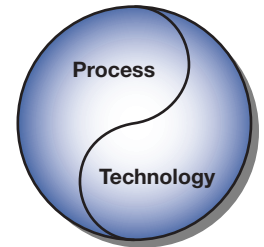

Figure 3.9 Mastering both the technology and the process ought to be every project participant's goal.
**JH:** Not a whole lot. What you just described, I'm picturing everyone holding hands singing "Kumbaya" before we sit to nail things down. Now, I have to admit, a couple of times in California where I was helping to negotiate the sale of a business between partners, I had them do some breathing exercises together before we got started just to get them on the same plane and get them relaxed. And had the lawyers leave the room while we did that. It lowers the stress, lowers the tension, allows everyone to be as creative as possible and really go for the win-win. And integrated design has to be a win-win. Anyone who walks away from the table and feels that it's not going to fly—or that they got screwed—they will potentially ruin the whole project. (See Figure 3.9.)